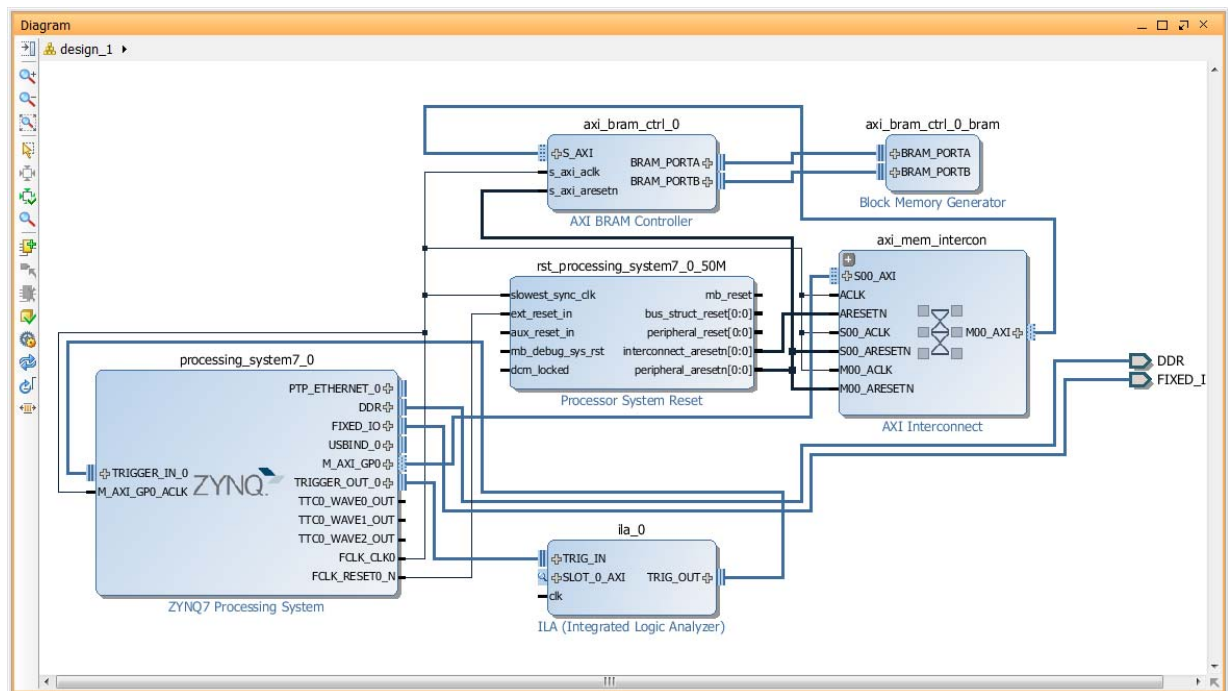

Figure 2-38: Block Design After Using Connection Automation
- Appropriately connects the Proc Sys Reset IP as shown in Figure 2-38